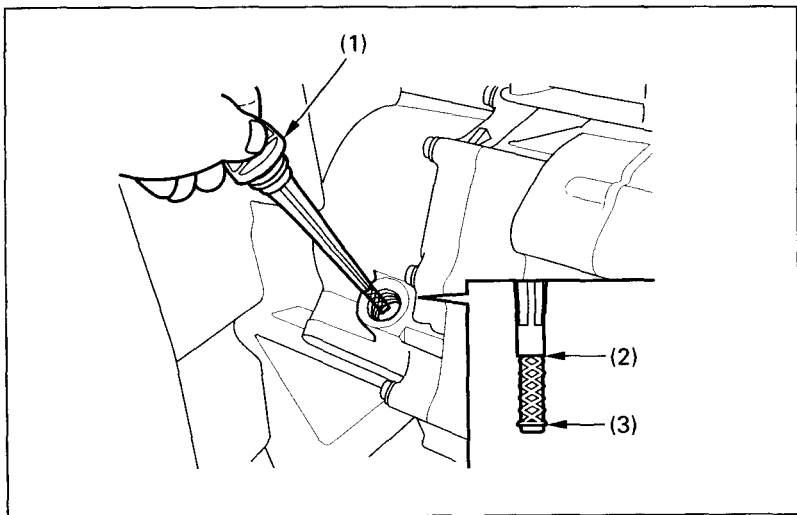

Fig. 2-18 (1) Oil filler cap/dipstick
The oil filler cap/dipstick (Fig. 2-18), on the front crankcase cover, is used to measure the oil level. The oil should be checked each day before operating the FOURTRAX and maintained between the upper level mark (2) and the lower level mark (3).